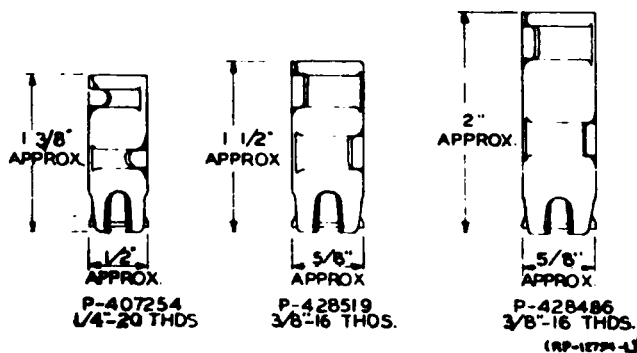

FIG. 5 TYPES OF SHIELDS WHICH CAN BE SET WITH THE R-2824 TOOL (PARS. 3.31, 5.21)
3.51 R-2837 Setting Tool and Masonry Drill Set: With the exception of the R-3032 Electric Drill and R-3033 Stand, needed, when using the 1/2" and 5/8" size drills, the R-2837 set contains all the tools required for drilling 3/8", 1/2" and 5/8" holes in masonry using carbide tipped drills, including the hand tools required for breaking through hard spots in concrete, and for setting the expansion shields shown in Figure 5 and the expansion anchors shown in Figure 9. This set is primarily intended for use on new installations and on large additions of sizes normally requiring the use of a 102 kit
NOTE: The R-2824 tool is provided for expanding or setting the expansion shields shown in Figure 5. Two removable threaded studs and associated nose details are provided with the tool, one set for use with shields threaded $1/4"$ - 20, the other for the shields threaded $3/8"$ - 16. See Figure 6.